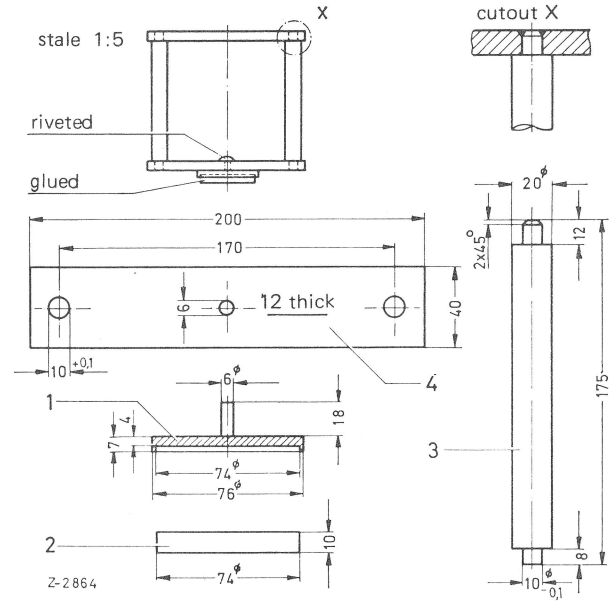
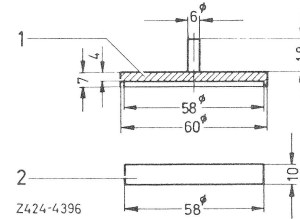

Fig. 17
Fig. 18
**Note:** Installation tool is self-made according to dimensions shown in Fig. 17, pressure plate and rubber plate according to dimensions shown in Fig. 18.